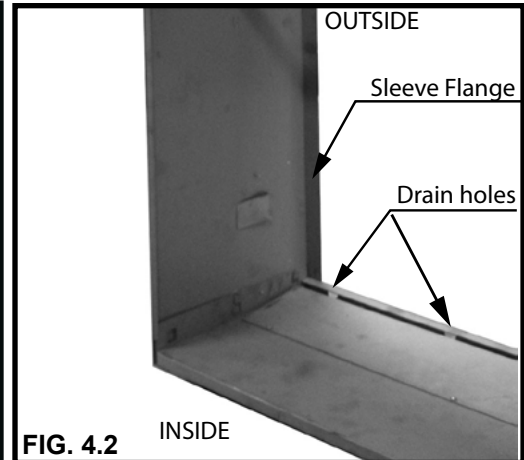

FIG. 4.2
- **DURING THE WALL SLEEVE ASSEMBLY PAY ATTENTION THAT THE SIDE PANEL FLANGES AND THE BASE PANEL DRAIN HOLES ARE ON THE SAME SIDE OF WALL SLEEVE, SEE FIG 4.2.**